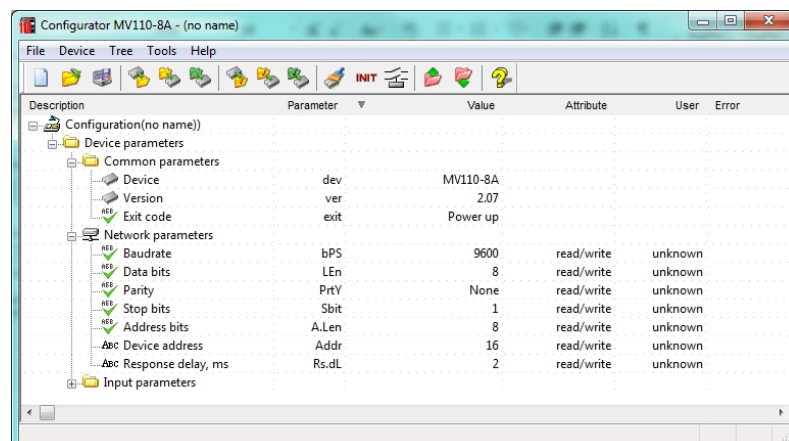

Fig. 7.2 Device mask
- saved user parameters can be read now (see Fig. 7.2)